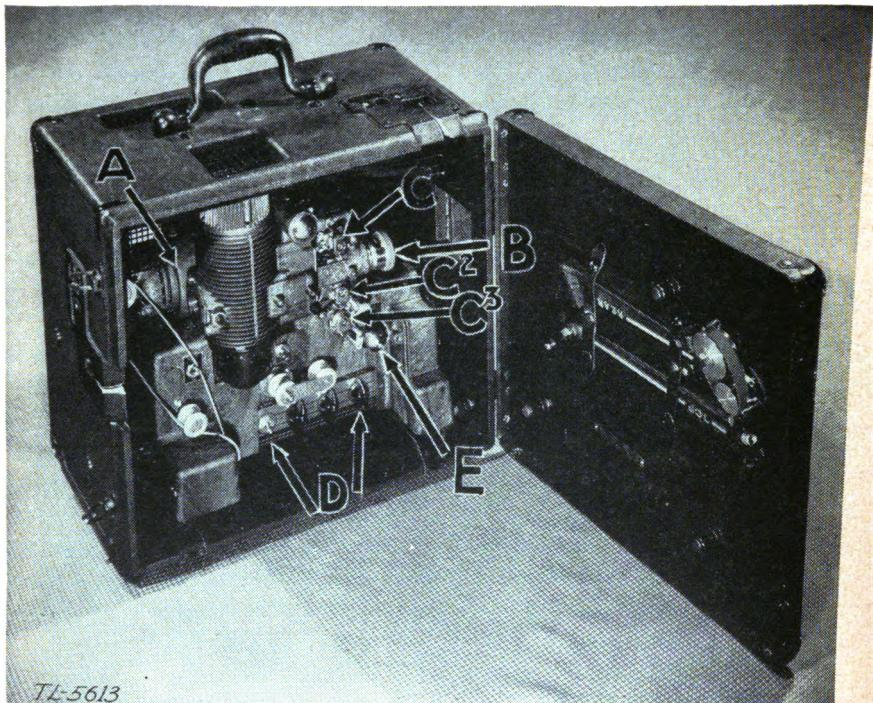
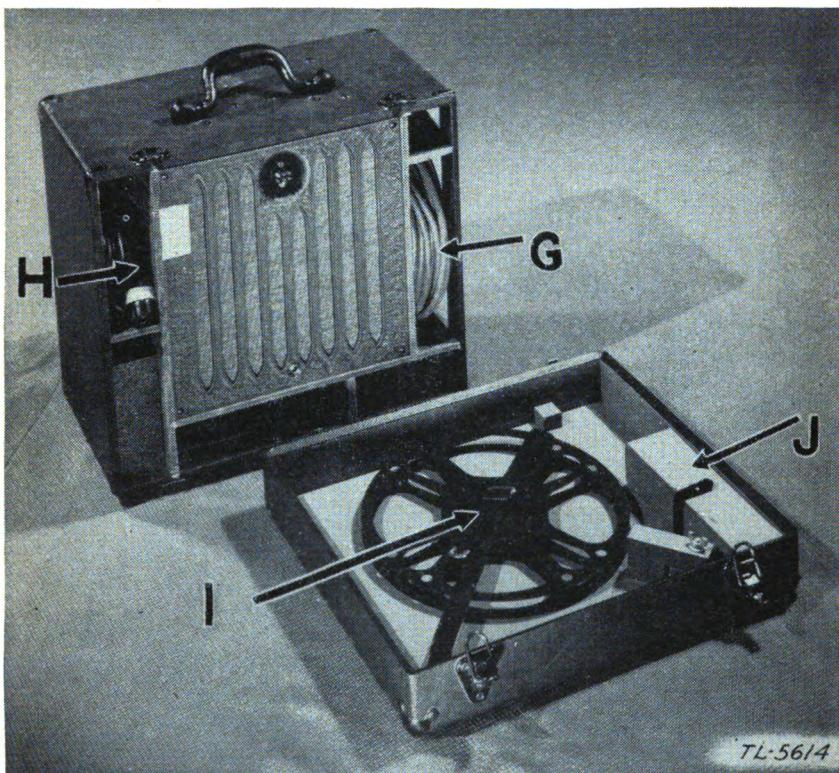

FIGURE 2.—Bell & Howell projector case open showing detachable reel arms in carrying position.
FIGURE 3.—Bell & Howell speaker case open.
2. Types of projectors and screens.—*a.* Four types of 16-mm projectors are used in the Army training program: Ampro YA, Phonofilm, Bell & Howell, and R. C. A. The complete projector usually comes in two cases, a projector case and a speaker case (see fig. 1). The projector case (fig. 2) houses the motor *A*, lens *B*, sprockets *C¹*, *C²*, and *C³*, control panel *D*, sound drum *E*, and the projector and exciter lamps. The speaker case houses the speaker, speaker cable *G*, power cable *H*, reel *I*, a tool kit *J*, spare lamps, and extra tubes. (See fig. 3.) The size and weight of the four projector models are shown in the following table: